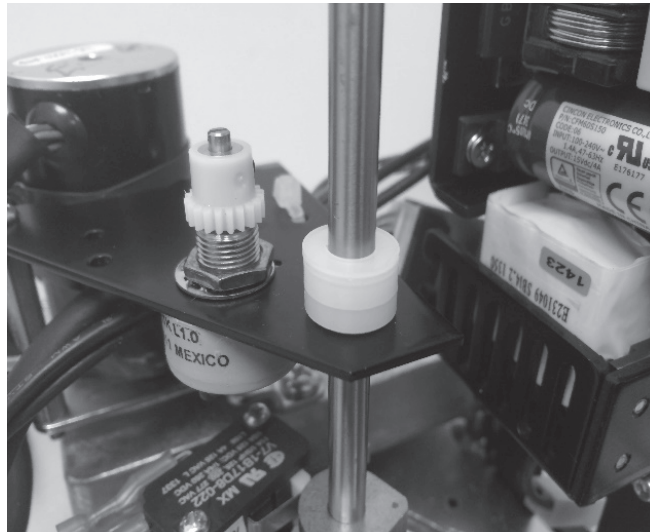

Figure 27.
- 4.29 Re-place the 4 spacers on the camshaft (2 thick, 2 thin), see Figure 27